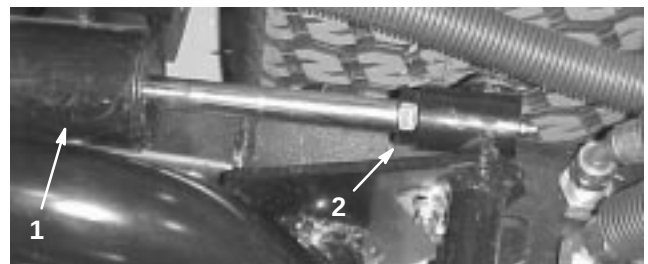

Figure 14
3. Start the engine, raise the decks, and check to make sure that the clearance between the wear strap on the top of the rear cutting unit wear bar and the bumper strap is 0.02–0.10 in. (0.51–2.54 mm) (Fig. 13). If the clearance is not in this range, adjust the rear cylinder to attain clearance. To adjust the cylinder, lower the cutting units and back off the jam nut on the cylinder (Fig. 14). Grasp the cylinder rod close to the nut with a pliers and rag and rotate the rod. Raise the cutting units and check the clearance. Repeat the procedure if required. Tighten the clevis jam nut.